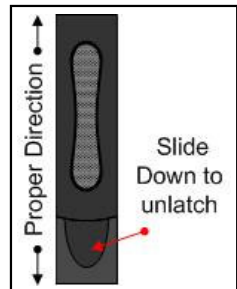

Figure 2— Drive Carrier
- Release the drive carrier handle by sliding the latch downward to the unlocked position (as shown in Figure 2) and pivoting the handle to the upright position.